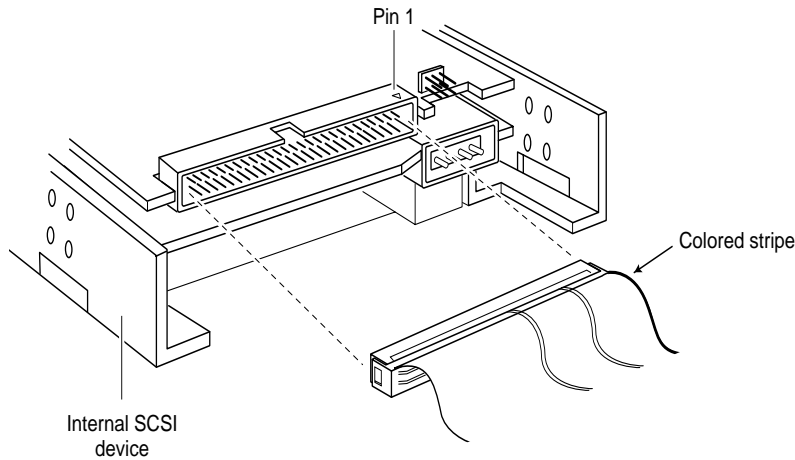

Figure 3-7. Internal SCSI Ribbon Cable to Internal SCSI Device
- To connect other internal SCSI devices, plug the devices into the other connectors on the ribbon cable, as shown in Figure 3-7.